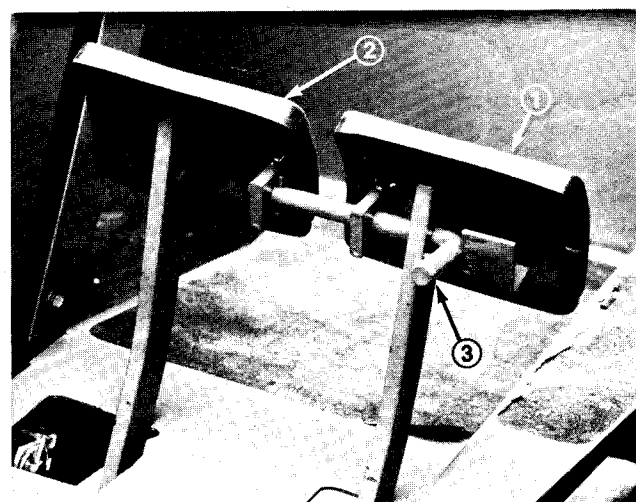

Figure 2
Two pedals are used to control the brakes. When used separately, the pedals can control each wheel brake to assist steering. The two pedals may be locked together with the brake lock arm (Fig. 2). When the lock arm is engaged both wheels will brake equally and act as a service brake or parking brake.
1. Disengage the lock arm from the left brake pedal so both pedals work independently of each other (Fig. 2).